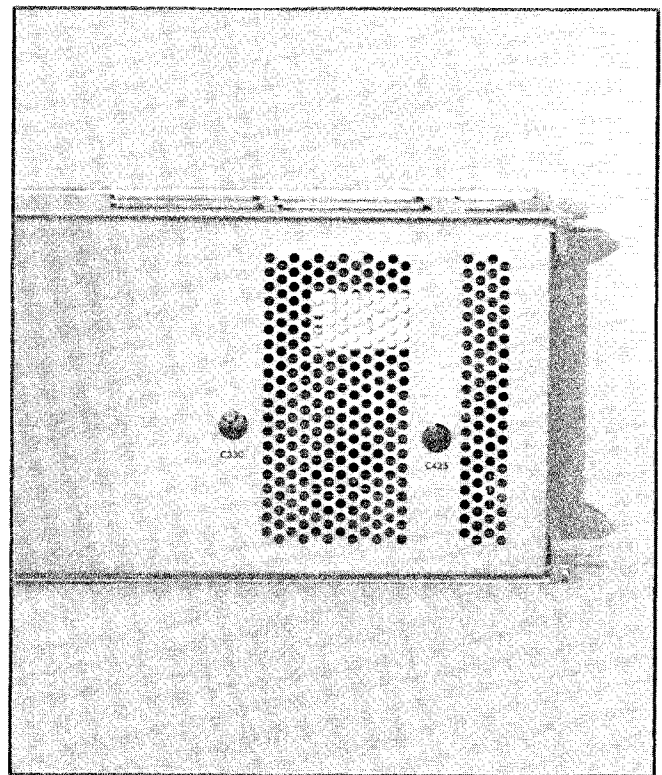

Fig. 5-6. Right side of 7A22 showing location of adjustments.
- ADJUST—With the frequency set to 1 MHz, adjust C425 for 4.2 div of display amplitude. See Fig. 5-6 for location of adjustment.
h. Adjust C330 (and C144 SN B080000 and up) for minimum vertical deflection. See Fig. 5-6 for C330 location. C144 is under the plastic cover near Q153 on the left side of the 7A22 (see Fig. 4-6, page 4-10).